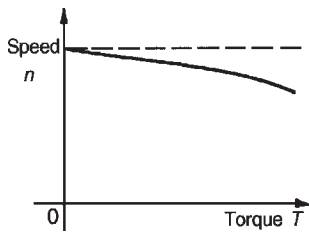

Figure 25.19
- (iii) Since torque is proportional to armature current (see (i) above), the theoretical speed/torque characteristic is as shown in Fig. 25.19.